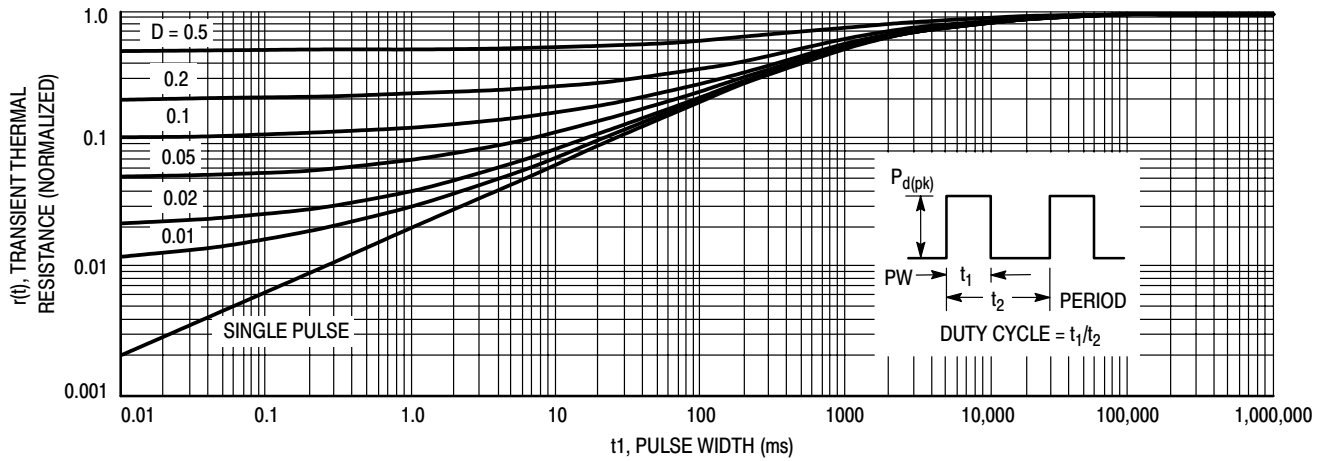

Figure 12. Transient Thermal Response
Figure 12 of the MDC3105LT1 data sheet plots its transient thermal resistance,  $r(t)$  as a function of pulse width in ms for various pulse train duty cycles as well as for a single pulse and illustrates this effect. For short pulse widths near the left side of the chart,  $r(t)$ , the factor, by which the continuous duty thermal resistance is multiplied to determine how much the peak power rating can be increased above the average power rating, approaches the duty cycle of the pulse train, which is the expected value. However, as the pulse width is increased, that factor eventually approaches 1.0 for all duty cycles indicating that the pulse width is sufficiently long to appear as a continuous duty condition to this device. For the MDC3105LT1, this pulse width is about 100 seconds. At this and larger pulse widths, the peak power dissipation capability is the same as the continuous duty power capability.
To use Figure 12 to determine the peak power rating for a specific application, enter the chart with the worst case pulse condition, that is the max pulse width and max duty cycle and determine the worst case  $r(t)$  for your application. Then calculate the peak power dissipation allowed by using the equation,
Thus for a 20% duty cycle and a PW = 40 ms, Figure 12 yields  $r(t) = 0.3$  and when entered in the above equation, the max allowable  $Pd(pk) = 390$  mW for a max  $T_A = 85^{\circ}C$ .
2. For pulsed operation, use the Transient Thermal Response of Figure 12 and the instructions with it to determine the maximum limit on transistor power dissipation for the desired duty cycle and temperature range.